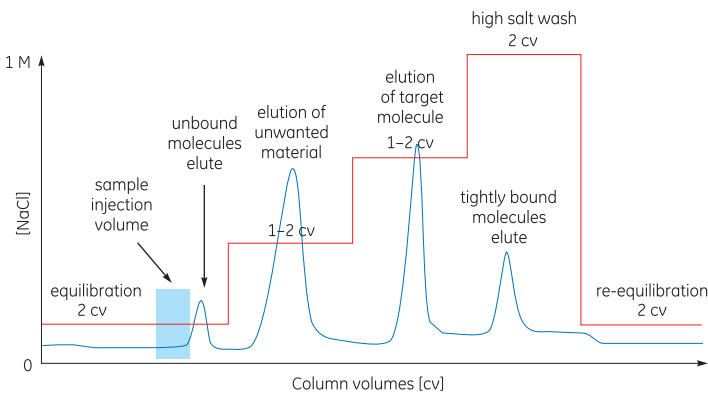

Fig 2. Typical IEX step elution.
5. For small scale sample clean up or large scale purifications, transfer to step elution to reduce separation times and buffer consumption, as shown in Figure 2. The different HiTrap IEX columns are ideal for small scale sample clean up.